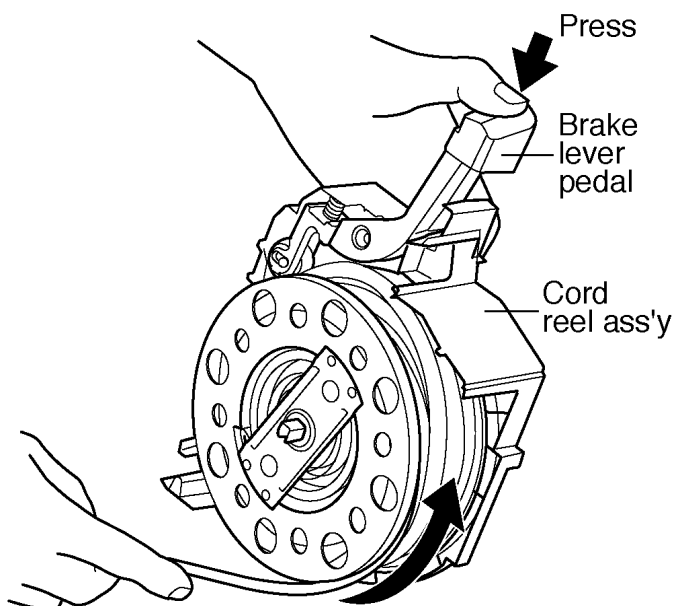

fig.14
3. Press the brake lever pedal and unwind the power supply cord to release the cord reel spring efficiency. (Fig. 14)
2. Press the brake lever pedal and unwind the power supply cord to release the cord reel spring efficiency. (see figure 14)